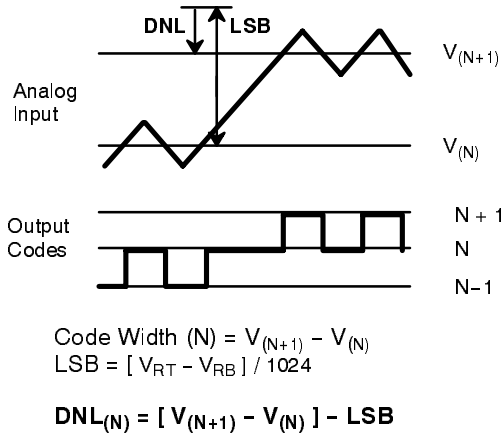
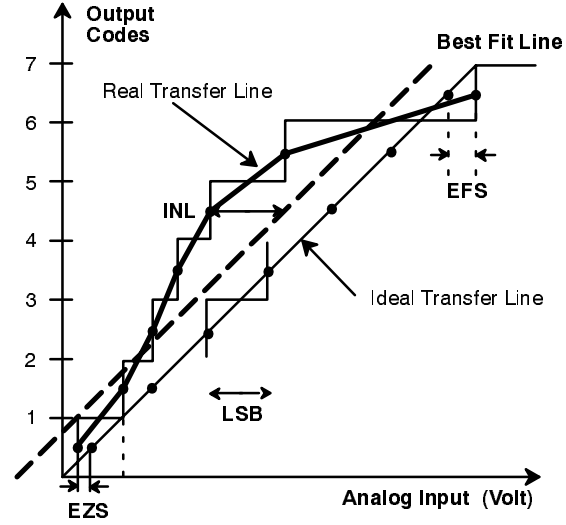

Figure 3. DNL Measurement
Figure 4. INL Error Calculation
- ¹ Tester measures code transitions by dithering the voltage of the analog input (V_{IN}). The difference between the measured and the ideal code width (V_{REF}/1024) is the DNL error (Figure 3.). The INL error is the maximum distance (in LSBs) from the best fit line to any transition voltage (Figure 4.). Accuracy is a function of the sampling rate (FS).